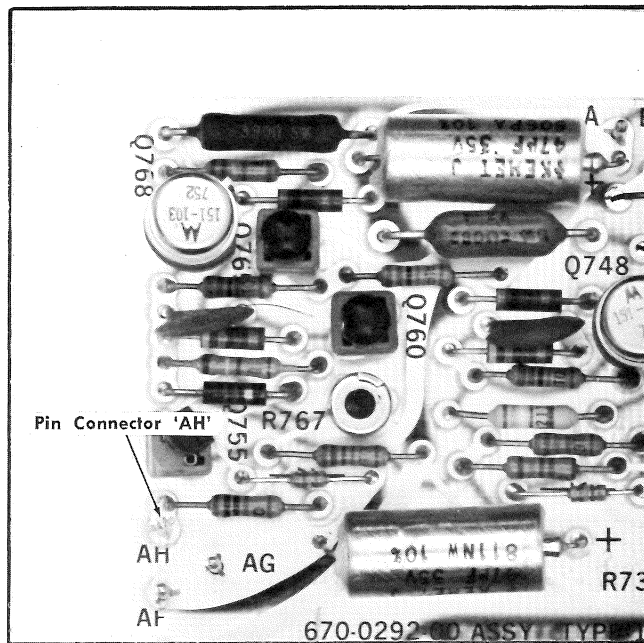

Fig. 5-7. Partial Bar Drive and Video Output board showing pin connector AH.
- h. Disconnect pin connector AH on the Bar Drive and Video Output board (see Fig. 5-7).